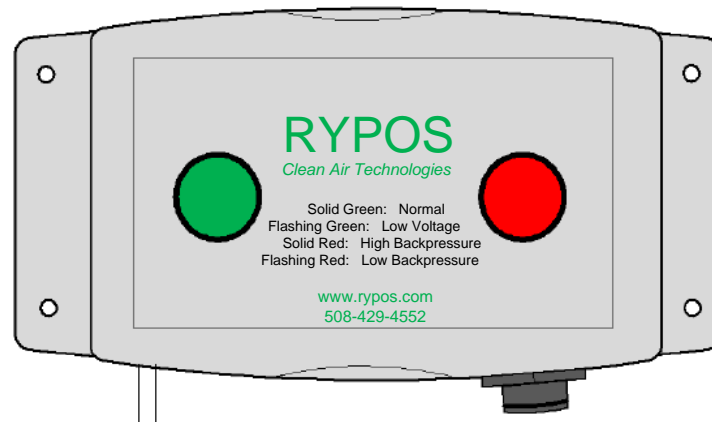

Figure 1: Single Controller Status Panel
Step 11: The status display panel can be mounted remotely from the HDPF main housing, using either a 15' or 25' wire harness length. Refer to Figure 1 for details.